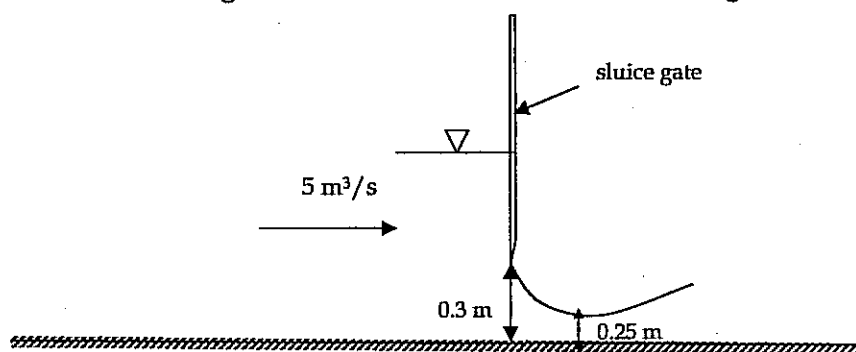

Figure 4
4) A horizontal open channel has a rectangular cross-section and a width of 4 m. A sluice gate is located at one point on this channel with an opening of 0.3 m, as shown in Figure 4. When the channel carries a steady discharge of $5 \text{ m}^3/\text{s}$, the steady water level upstream of the gate is found to be 2.9 m, as shown in the figure.